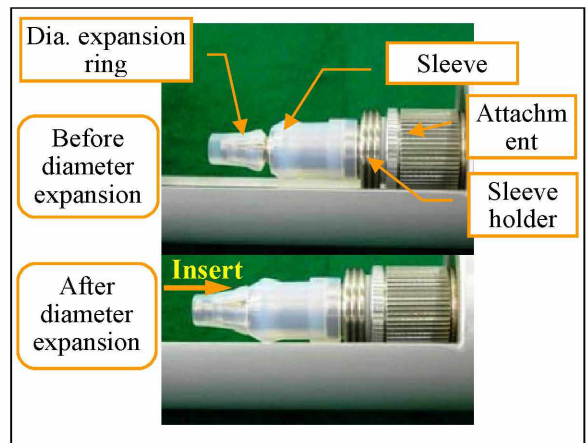

Fig. 57 – Setting the sleeve
- Then Attach the sleeve holder to the attachment and the sleeve as shown in Fig. 57 for the state Before diameter expansion.
- After the sleeve has been set, push the diameter expansion ring toward the sleeve until it clicks (see Fig. 57 for the state After diameter expansion).